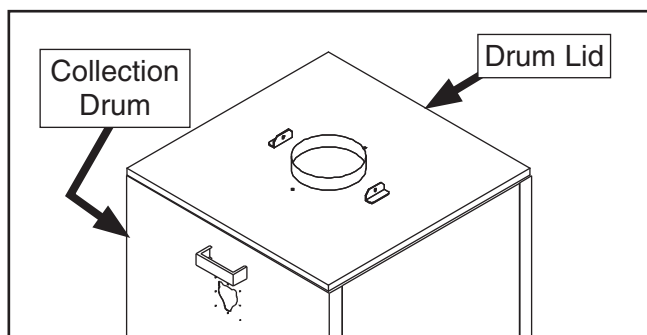

Figure 35. Drum lid placed on collection drum.
47. Apply (2) 5 x 50 x 2000mm foam tape rolls to inside rim of drum lid to create a seal when placed on drum.
48. Place collection drum lid on top of collection drum (see **Figure 35**).